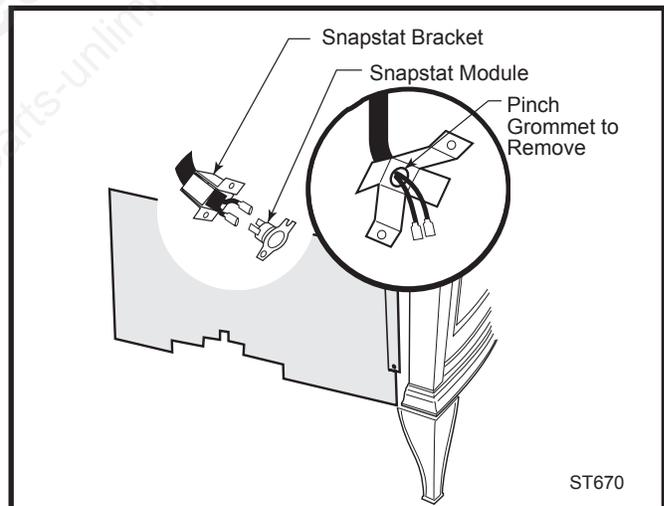

Fig. 9 Remove the snapstat and grommet from the bracket
4. Connect snapstat leads. Disconnect the snapstat module from the leads inside the snapstat bracket. (Fig. 9) Bend open the snapstat bracket. Use needle nose pliers to remove the black plastic grommet from the bracket. Discard the bracket. Connect the two wires to the two snapstat extension leads located between the inner and outer shroud.